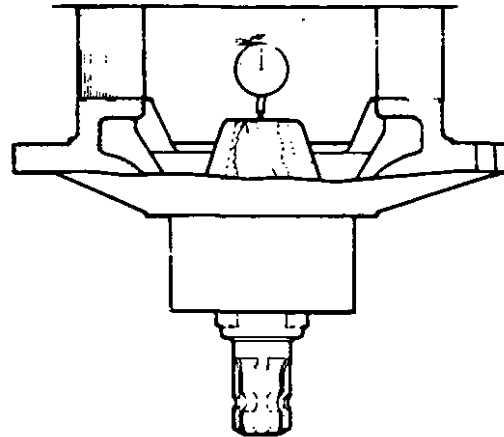

FIGURE 17 POSITION OF DIAL GAUGE
5. Put the dial gauge in a position so that the probe is against the face of the pinion. See Figure 17.